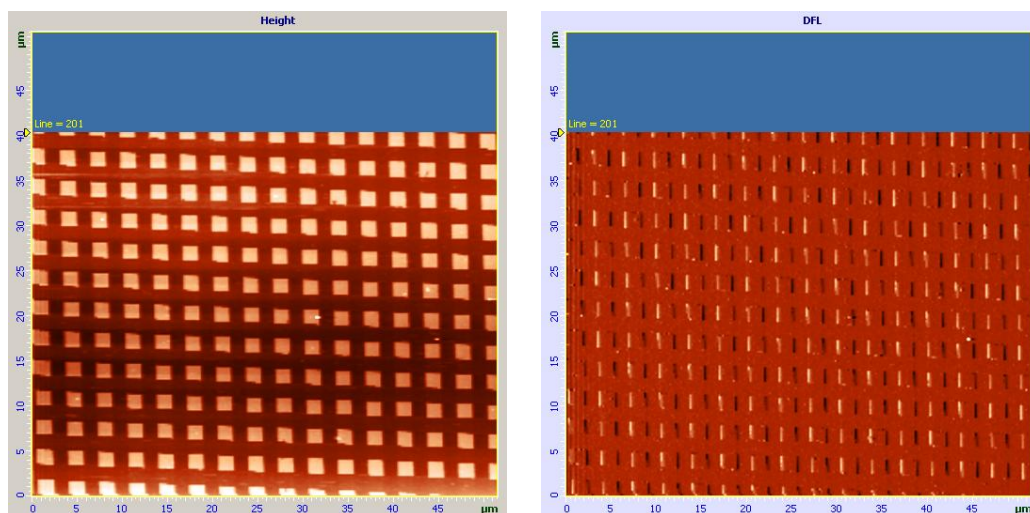

Fig. 7-35. Images of surface topography and the **Error** signal
- Two images appear in the field of 2D visualization of the scanning data. One of the images is an image of surface topography (signal **Height**), while the other one is the error signal (signal **DFL**) (Fig. 7-35);